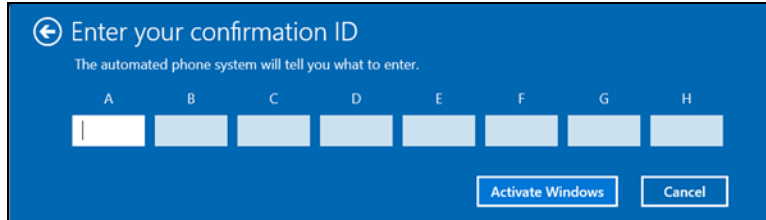

Figure 2-19. Enter Your Confirmation ID dialog
7. Enter the eight-part confirmation number provided by the automated activation service (Figure 2-19).